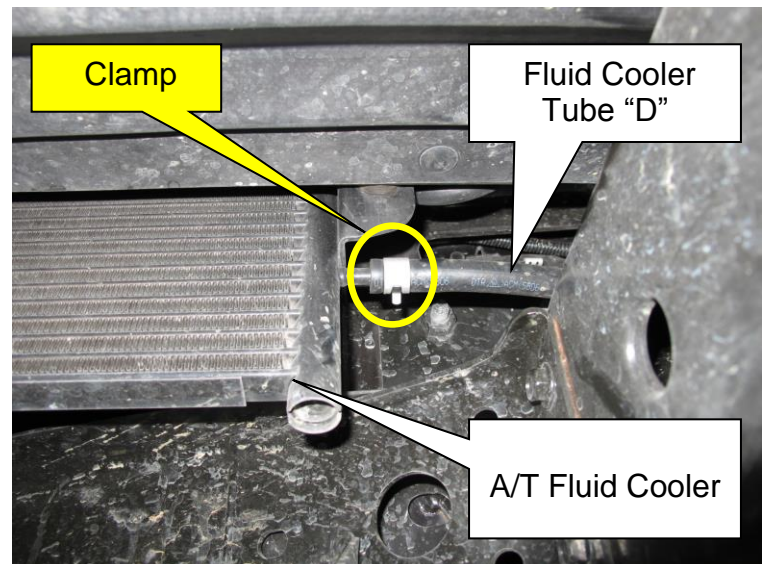

Figure 11
10. Locate the clamp connecting the A/T fluid cooler and fluid cooler tube "D". (Figure 11)